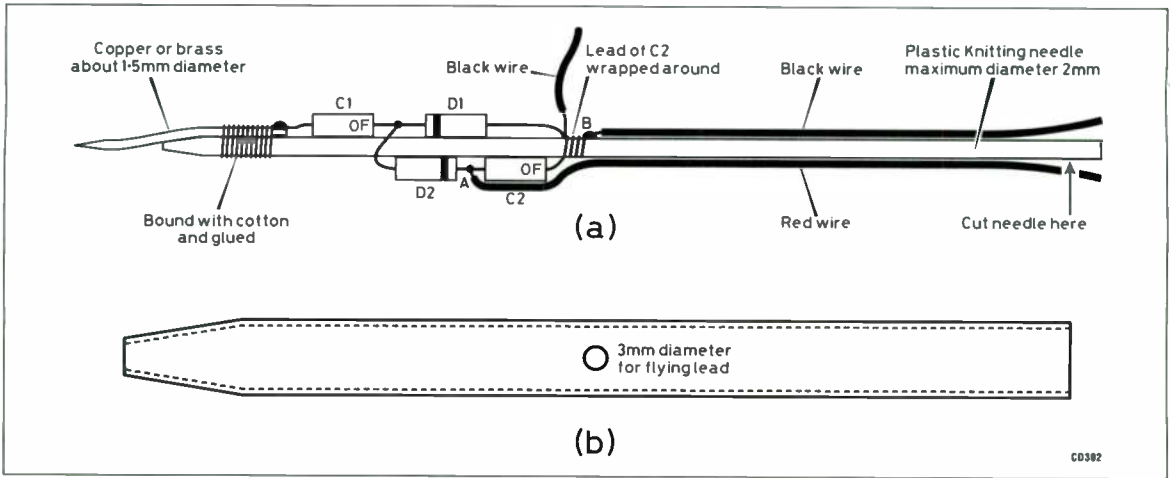

Fig 2.2. (a) The position of the components on the needle. (b) The pen body
2. The components are arranged in two lines along the needle as shown in Fig 2.2. The polarity of the two diodes is most important: refer to the diagram. The cathode marks (a band) *must* be as shown. If the capacitors have a band or the letters 'OF' (standing for 'outside foil'), they should also be connected as shown, although the device will still work correctly if these are reversed.
3. Push the needle complete with components into the body of a disused ballpoint pen (the fatter variety) so that the tip of the wire protrudes by about 4mm. Fig 2.2 should make this clear. If the components listed have been used it should be possible to do this
5. Make a 3mm hole in the plastic pen body at the position marked, pass a piece of PVC-insulated wire through the hole so that it comes out of the big end of the pen, and solder the wire to the earth band. Refer to Fig 2.2(a).